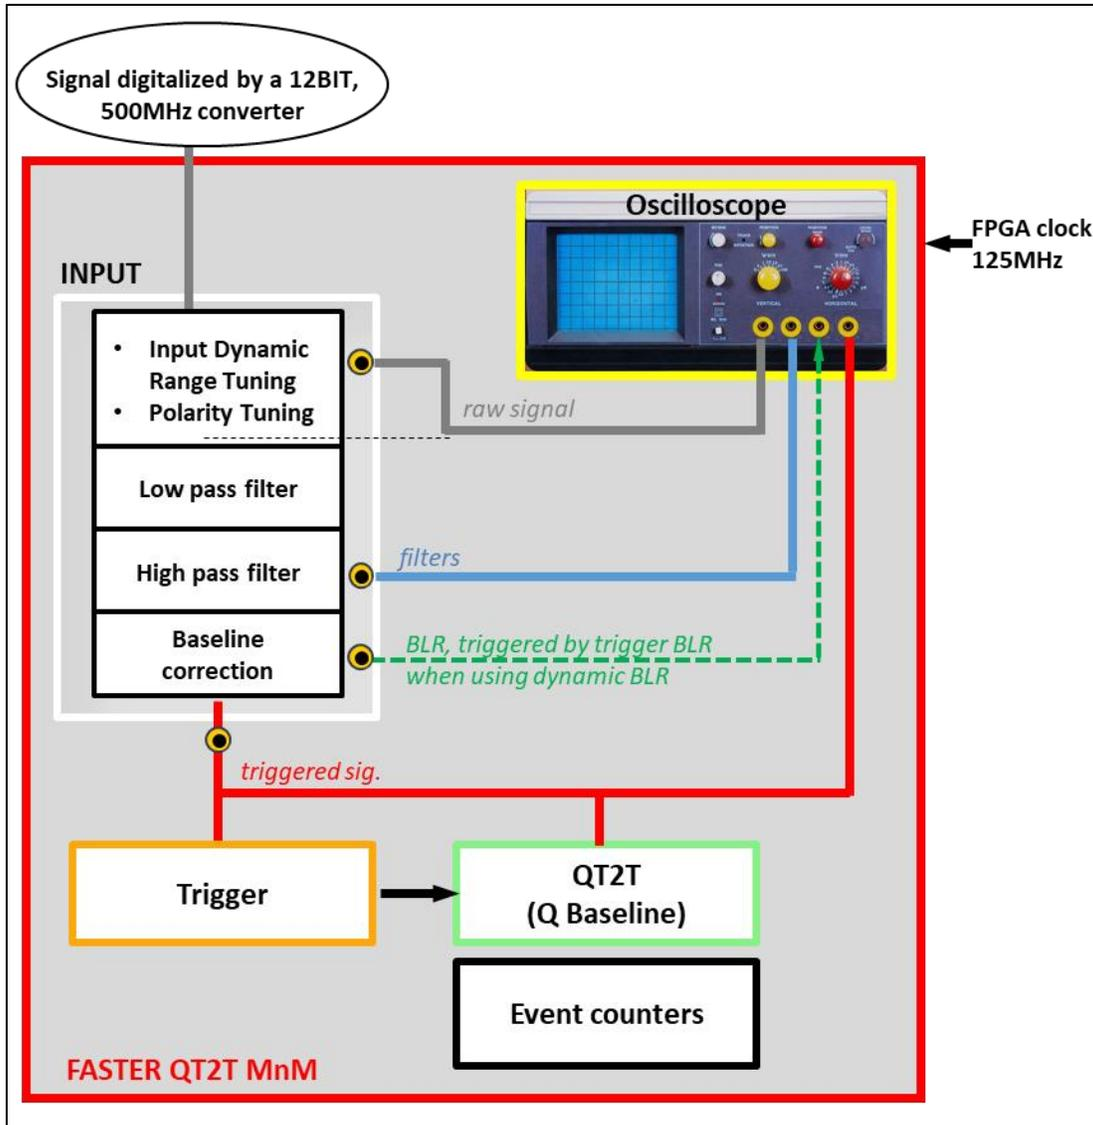

Figure 5: Diagram of FASTER QT2T MnM. The border colour of each box is as the one of the MnM interface.
The interface includes several tuning modules, synthetically described in Table 1 and Figure 5. Each module has some parameters that are adjustable by the user to achieve the best performance.
The signal, which is displayed by the oscilloscope module, is defined by parameter ① (Figure 6). Each ● on Figure 5 indicates the location of an Oscilloscope module input. The use case of this signal is described in Table 2.